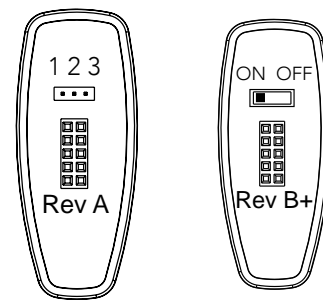

Figure 53. Bluetooth Switch
3. Move the jumper or switch to the ON position. (Left two pins on three pin version or to the left on slide switch, Figure 53)